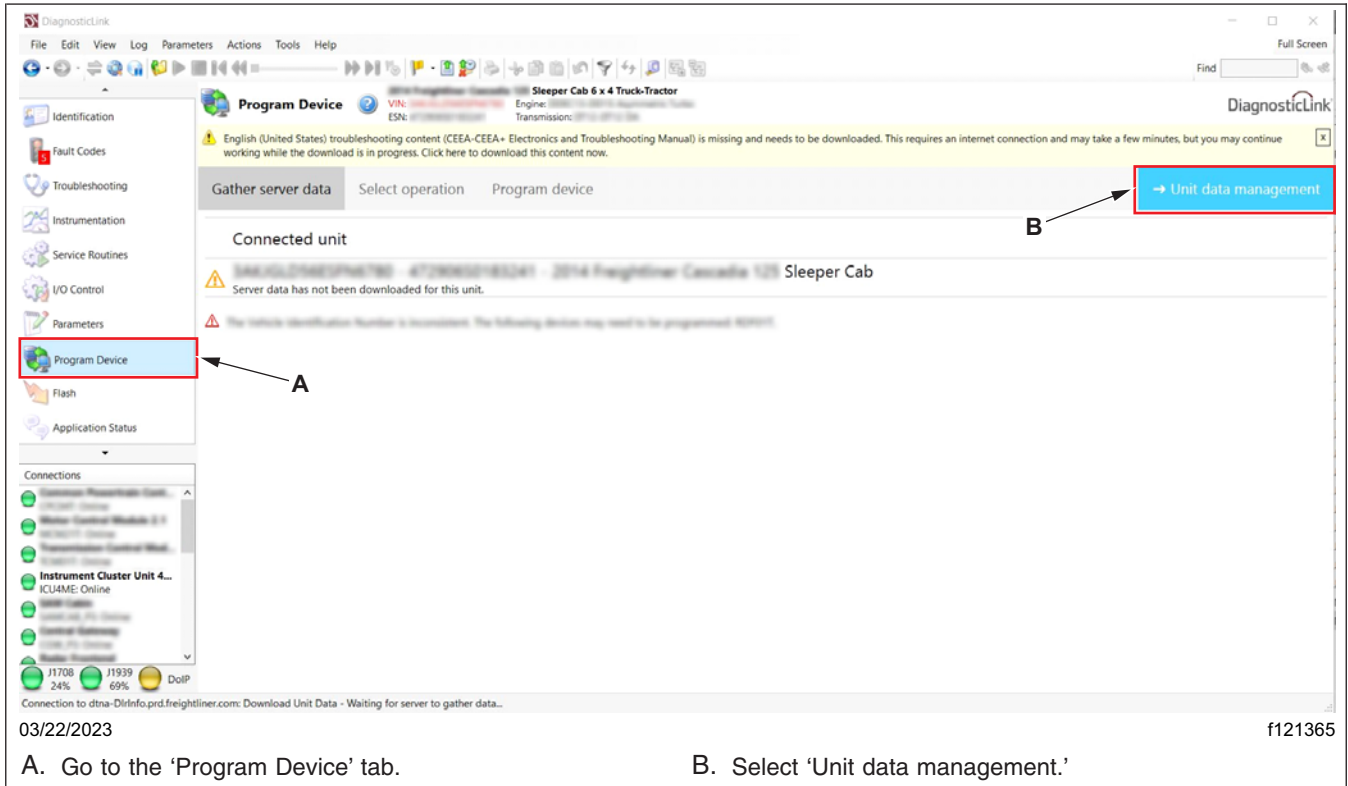

Fig. 3, Selecting Unit Data Management
4.2 After the parameters are read from the device, go to the 'Program Device' tab. Select 'Unit data management' in the upper-right corner. See Fig. 3.